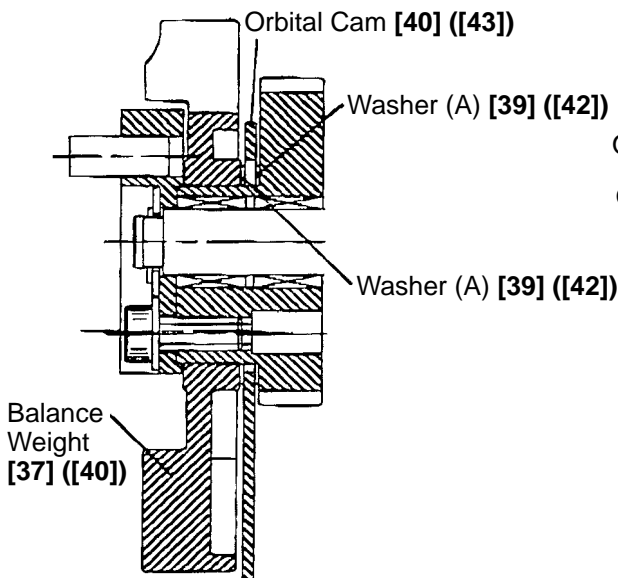

Fig. 15
- (3) Carefully ensure that two Washers (A) [39] ([42]), the Orbital Cam [40] ([43]), and the Balance Weights [37] ([40]) are assembled as shown in Fig. 15.